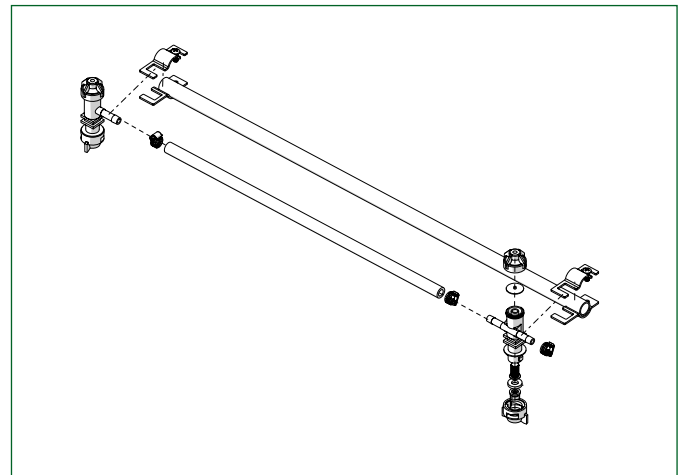

Figure 7: Nozzle body mounting
3. Connect the vinyl hose to the nozzle body(s) with an included hose clamp. The spray nozzles, nozzle body caps, and tip strainers are all installed into the nozzle body. See (Figure 7) for a breakdown of the complete nozzle body.
4. The recommended technique for mounting the nozzle body(s) is on a piece of round or square tubing with a boom clamp. Your applicator kit includes two 1/2" round boom clamps. See the Accessories section on page 17 for ordering different size round or square boom clamps. See (Figure 7) for a diagram of how the spray nozzle bodies are mounted on tubing.
5. Depending on the size of the application area on the piece of equipment, you will need to use one or two spray nozzles. Begin by installing the nozzle body elbow and test to see if the spray pattern covers the entire application area. If two spray nozzle bodies are needed for complete coverage, install the nozzle body tee first and the nozzle body elbow secondly. See (Figure 7).